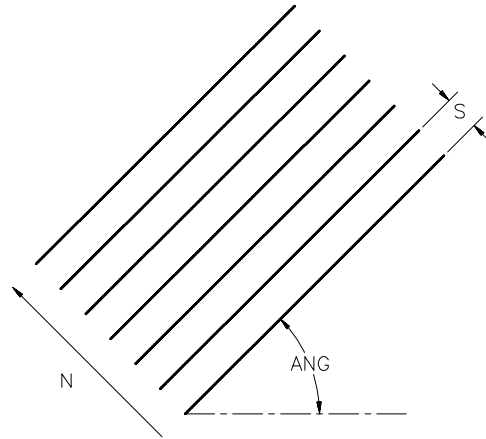

Figure 34-25 N number of lines offset at a distance of S
number of lines (N), parallel to the first line with an offset distance S (Figure 34-25) as entered on a user form or from the keyboard.